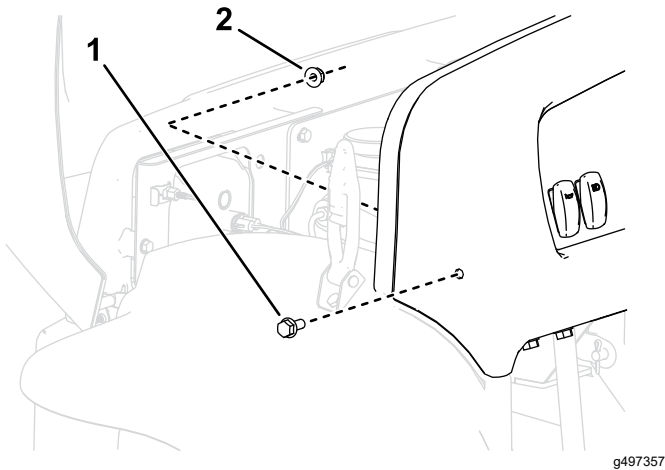

Figure 6
1. If your machine is equipped with hardware securing the dash on the sides of the machine, raise the hood and remove the bolt and locknut (Figure 6).